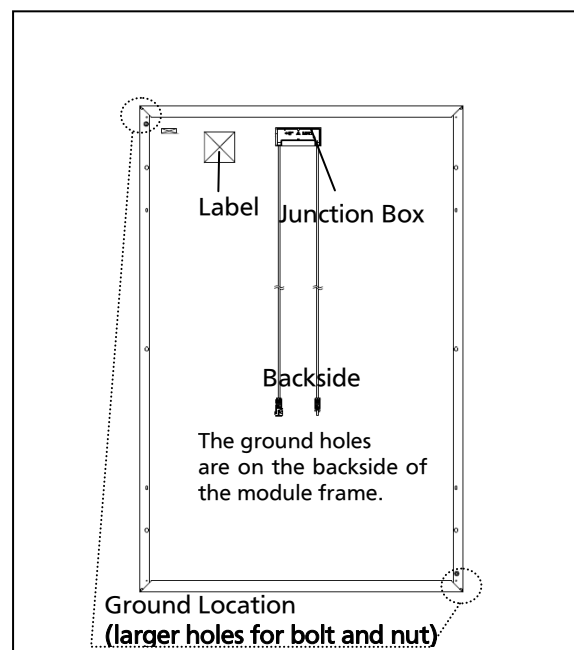

Figure 3.1
- Each ledge on the module frame has two larger holes for bolts (0.205" diameter (5.2 mm)). These ground holes are marked with a "G" or "ground mark" adjacent to their location on the frame rail (see Figure 3.1).
Method- Use a bolt and nut (see Figures 3.1 and 3.2)
illustrated in Figure 3.1.